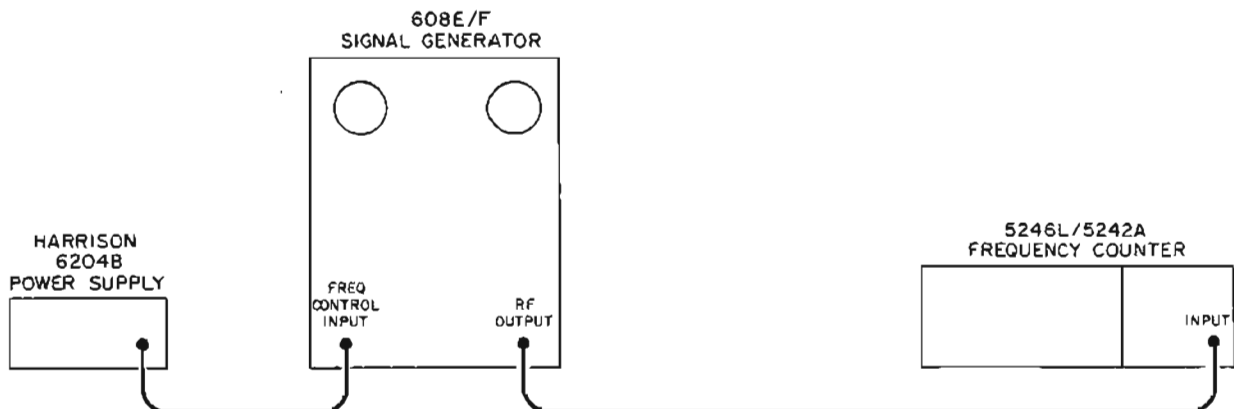

Figure 5-11. Frequency Control Input Test Setup
- a. Connect signal generator in test setup illustrated in Figure 5-11.